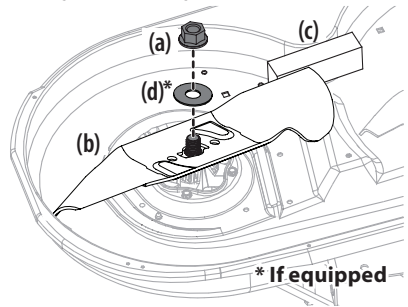

Figure 52
2. Use a 15/16" wrench to hold the hex nut on top of the spindle assembly when loosening the hex nut (a) and washer (d)* securing the blade (b). A block of wood (c) may be placed between the deck housing and the cutting edge of the blade (b) to help in breaking loose the hex nut (a) and washer (d)* securing the blade. See Figure 52.
3. When re-installing blades, be sure of the following (see Figure 52):